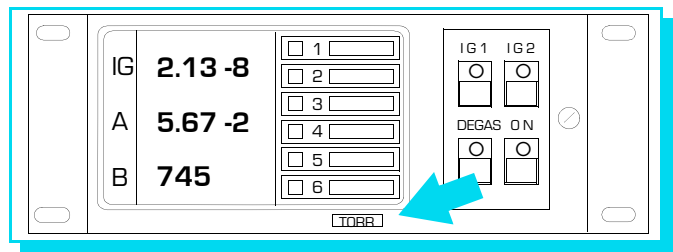
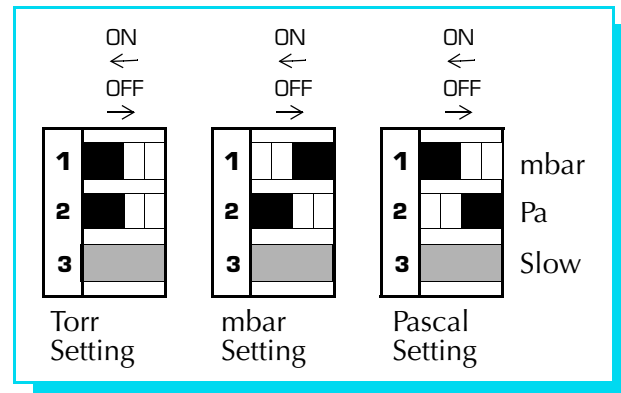
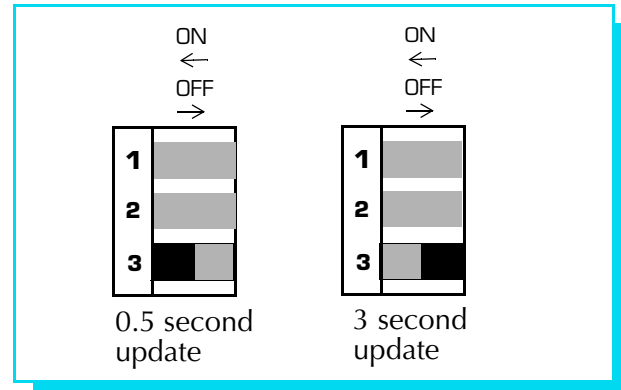

Figure 2-2 Control Unit Front Panel Showing Location of Units of Measure Label.
Figure 2-5 Pressure Display Units of Measure Switch Settings.
Figure 2-8 Pressure Display Rate of Update Switch Settings.
2. If none of the above options are present and if the pressure display units of measure are correct (See Figure 2-2.), and you do not wish to change the degas timer from the factory setting of 10 minutes, skip to Chapter 3 Installation.
1. Skip to Section 2.1.3 on page 2-4 if units of measure are as desired. See Figure 2-2 and Figure 2-5.
2. If you wish to change the pressure display units of measure, change the settings of the units of measure switches on the Electrometer module, and on the Dual Convector Gauge module if present, as shown in Figure 2-5.
1. Skip to Section 2.1.4 on page 2-5 if units of measure are as desired. See Figure 2-2 and Figure 2-8.
2. To change the pressure display rate of update, change the setting of the rate of update switch on the Electrometer module, and on the Dual Convection Gauge module if present, as shown in Figure 2-8. Setting this switch “ON” will enable pressure averaging. The display will update about every three seconds with the switch “ON,” and 0.5 seconds with the switch “OFF.”